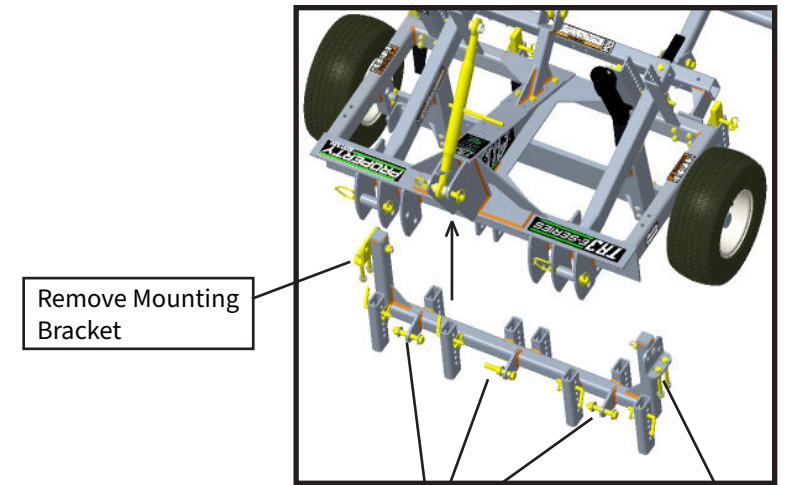

Fig 3
1. Remove mounting brackets on both ends of the new mounting bar using (2) 3/4" wrenches and (1) 15/16" wrench as well as the bolts and nuts from mounting bar ears using (2) 15/16" wrenches (3 places) (**Fig 3**).
2. Slide mounting bar under unit and lift into position and reattach mounting brackets (removed in step 1) by aligning the 2 holes in the mounting brackets with the 2 holes in the existing frame on both ends using (2) 3/4" wrenches. Slide Carriage bolt thru top hole in bracket and thru hole in mounting bar and tighten nut using (1) 15/16" wrench (**Fig 3**).